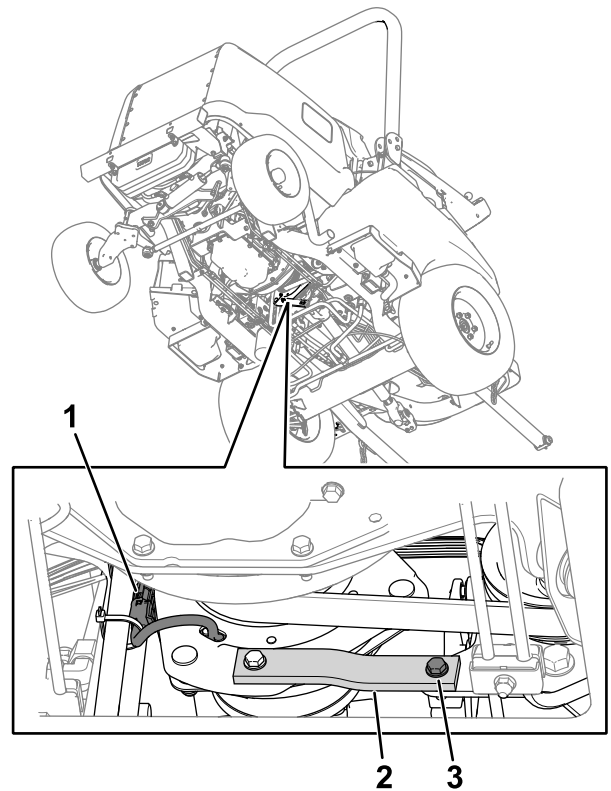

Figure 75
2. Unplug the clutch-wire-harness connector from the machine wire harness (Figure 75).
3. Remove the bolt, washer, and nut from the rubber strap (Figure 75) on the frame.